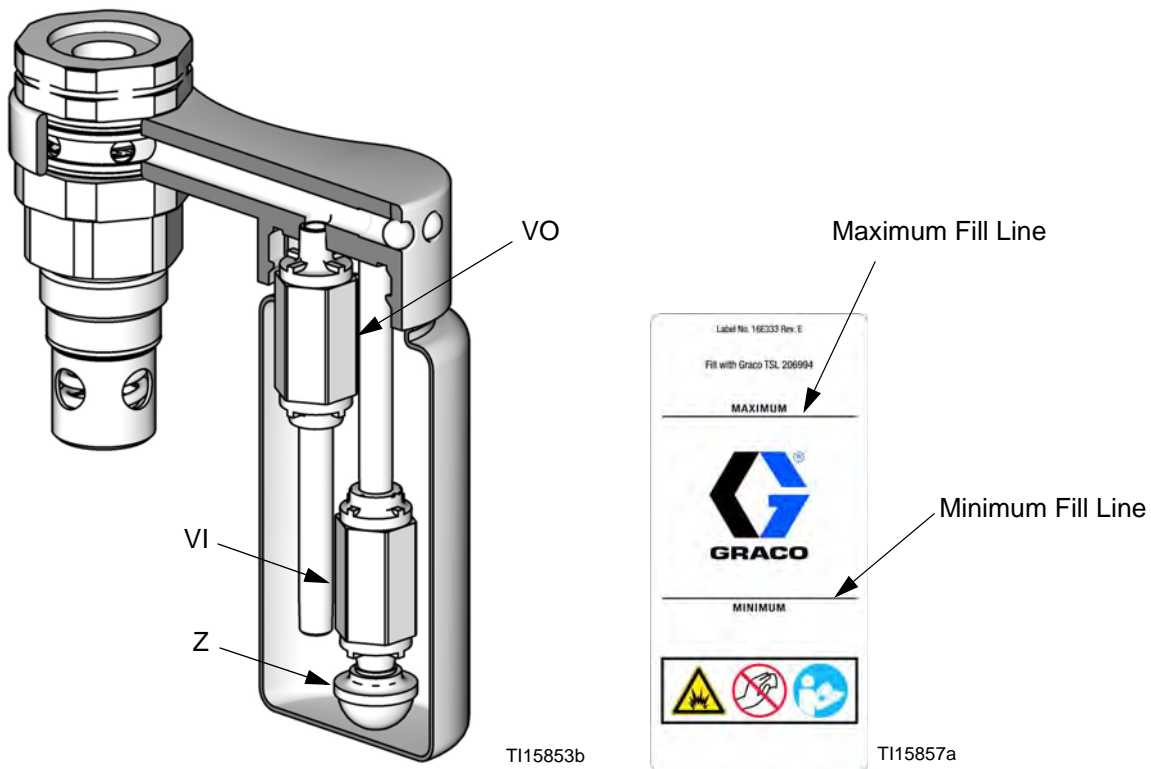

FIG. 3. Cutaway of TSL Reservoir, and Fill Lines
1. Fill the TSL reservoir to the Maximum fill line with Throat Seal Liquid (TSL). See FIG. 3 on page 12.
3. Clean screen (Z) of inlet check valve (VI). If check valves are not sealing and dirty TSL is getting into the wet-cup, replace the check valves (VI, VO). See FIG. 3.